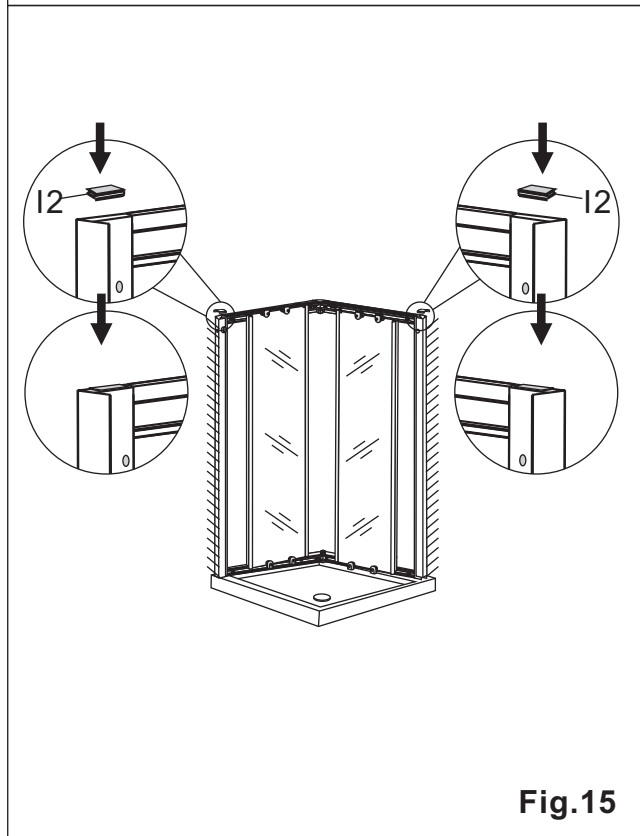

Fig.15
15. Fit the wall profile caps (I2) to the top of the wall profiles (A). See **Fig.15**.